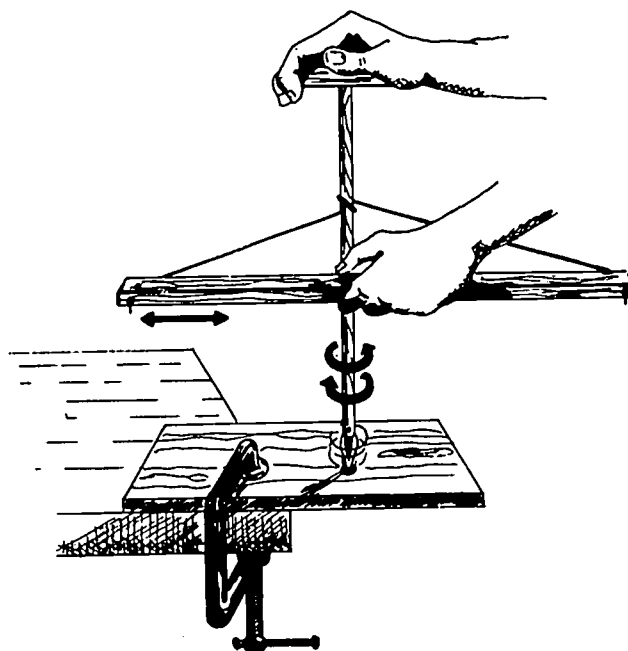

Fig. 1-1. Bow Drill
1. **Drilling:** Drill three holes with the bow drill, three holes with the hand drill, and three holes with the electric drill. See Figs. 1-1, 1-2, and 1-3.